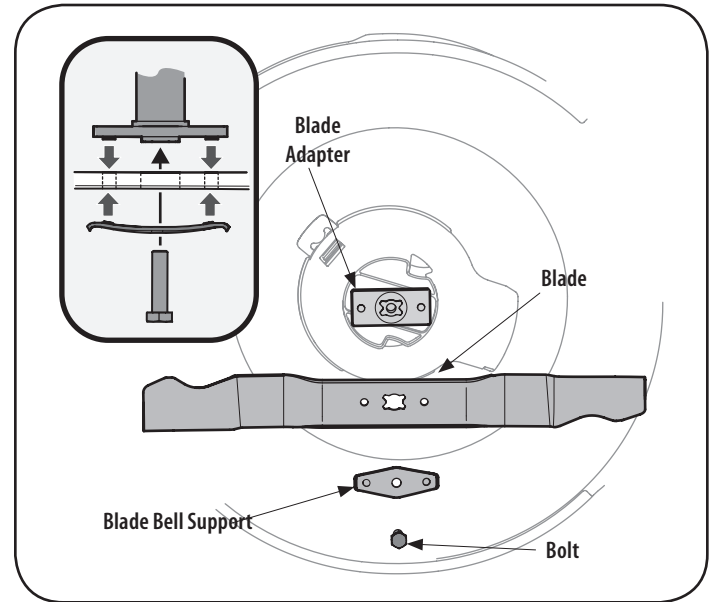

Figure 18
3. Remove the bolt and the blade bell support which hold the blade and the blade adapter to the engine crankshaft. See Figure 18.
6. Lubricate the engine crankshaft and the inner surface of the blade adapter with light oil. Slide the blade adapter onto the engine crankshaft. Place the blade on the adapter such that the side of the blade marked "Grass Side" (or with part number) faces the ground when the mower is in the operating position. Make sure that the blade is aligned and seated on the blade adapter flanges. See Figure 18 inset.